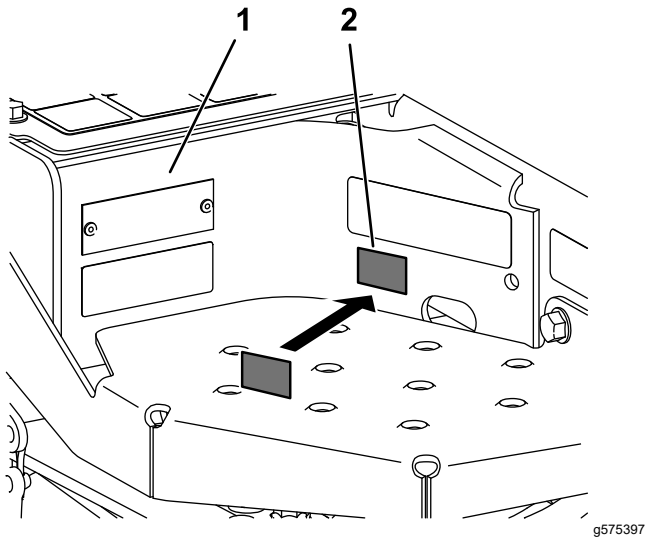

Figure 5
1. Use rubbing alcohol and a clean rag to clean the area next to the serial plate, and allow the area to dry (Figure 5).
2. Remove the backing from the year of production decal and apply the decal (Figure 5).